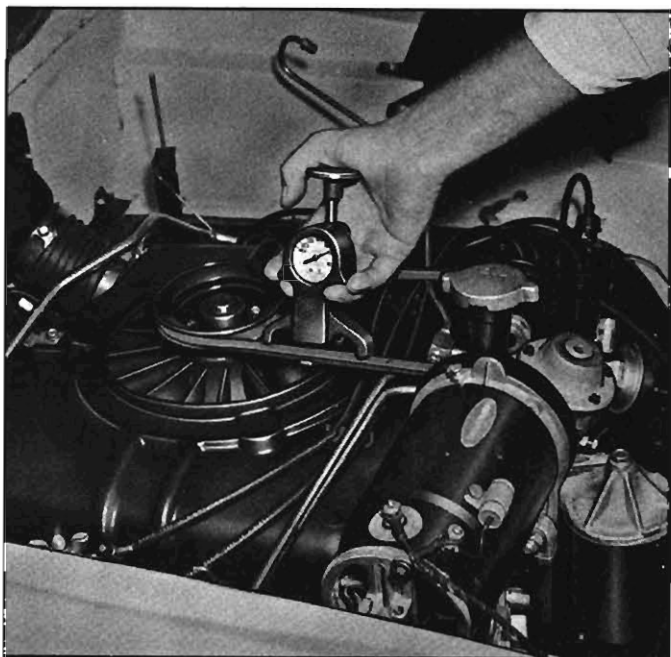

Fig. 2—Check Belt Tension
1. Use a strand tension gauge (fig. 2) and adjust idler pulley to give a reading of 75 ± 5 lbs. on new belts and 55 ± 5 lbs. on used belts.